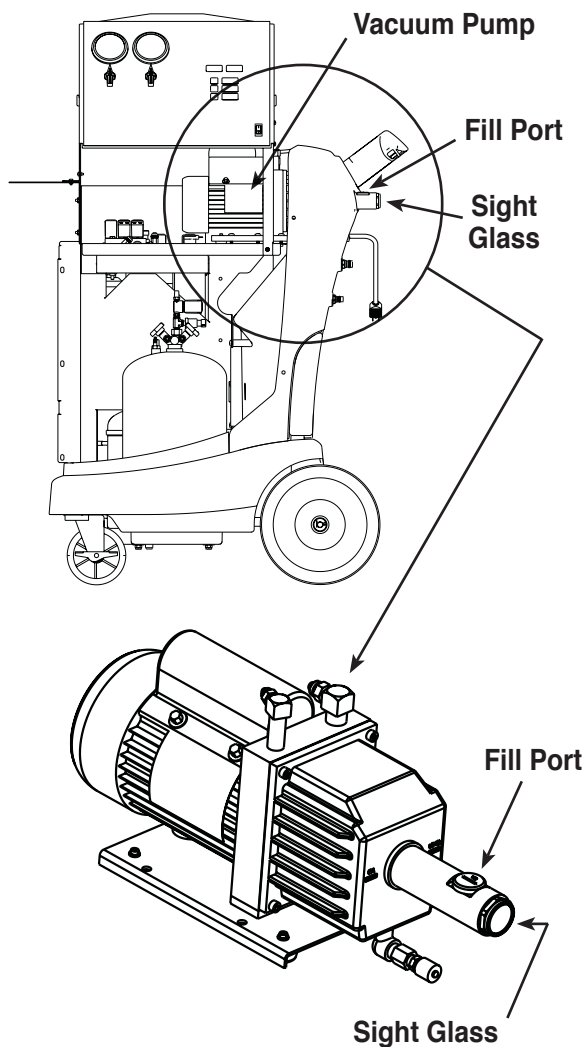

Figure 2
1. Remove the brass plug from the vacuum pump oil fill port. See Figure 2.
2. Attach the flexible tube/cap to the oil bottle; pour **only** five (5) ounces of vacuum pump oil into the fill port.